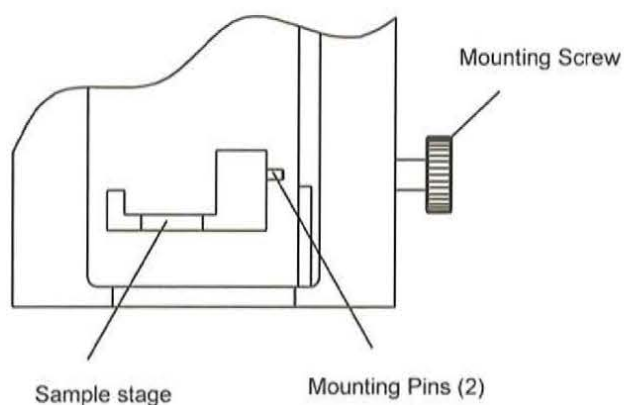

Figure 12 • Installing the HVC
- Grasp the sample stage (Figure 12) and unscrew its mounting screw.